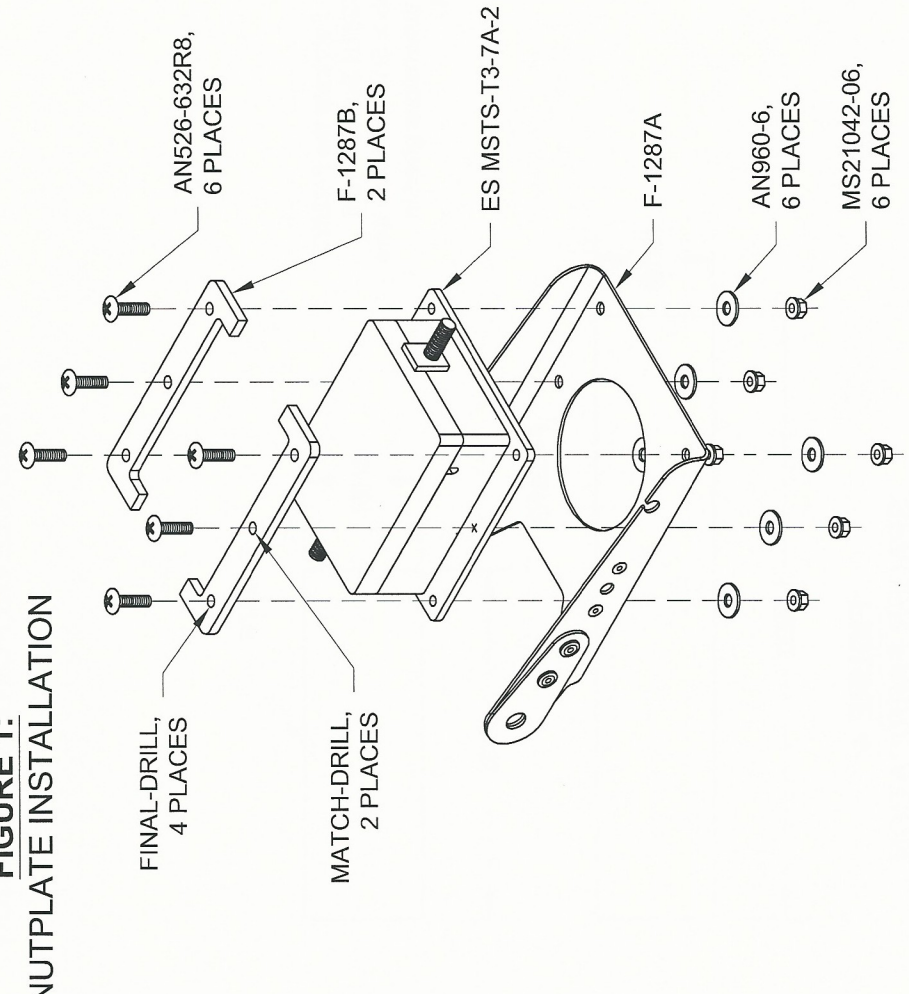

FIGURE 2:
- Step 4: Cleco the ES MSTST-3-7A-2 Pitch Trim Servo and both F-1287B Doublers to the F-1287A Servo Tray as shown in Figure 2.
- Step 6: Install the ES MSTST-3-7A-2 Pitch Trim Servo to the F-1287A Servo Tray using hardware called out in Figure 2.